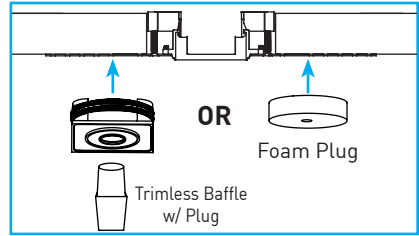
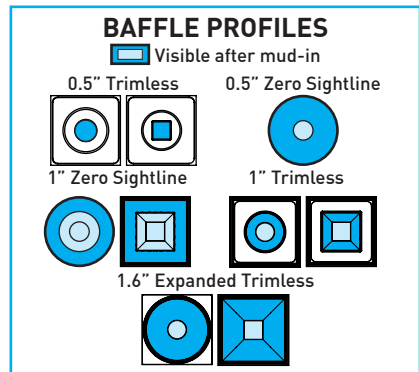

Fig.15
Fig.19
**Note:** 0.5" and 1.0" trimless baffles and respective plugs must be installed prior to mud-in. (Fig.15) Baffle profiles after mud-in provided for reference in "Fig. 19".